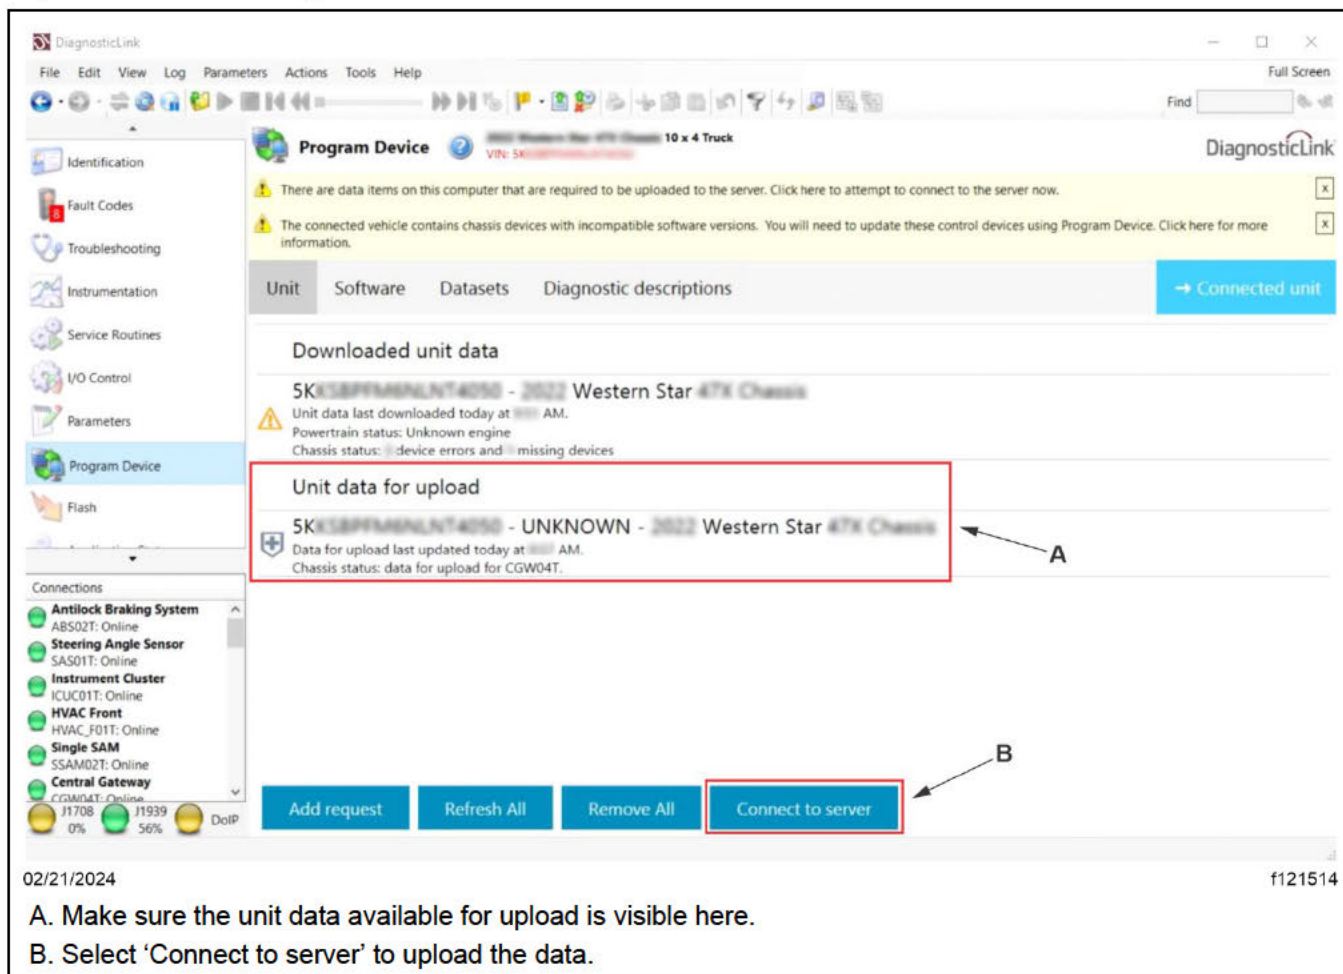

Fig. 9, Uploading the Unit Data to the Server
12. The unit data available for upload is visible under the 'Unit data for upload' panel. Select 'Connect to server' to upload the data. See Fig. 9.